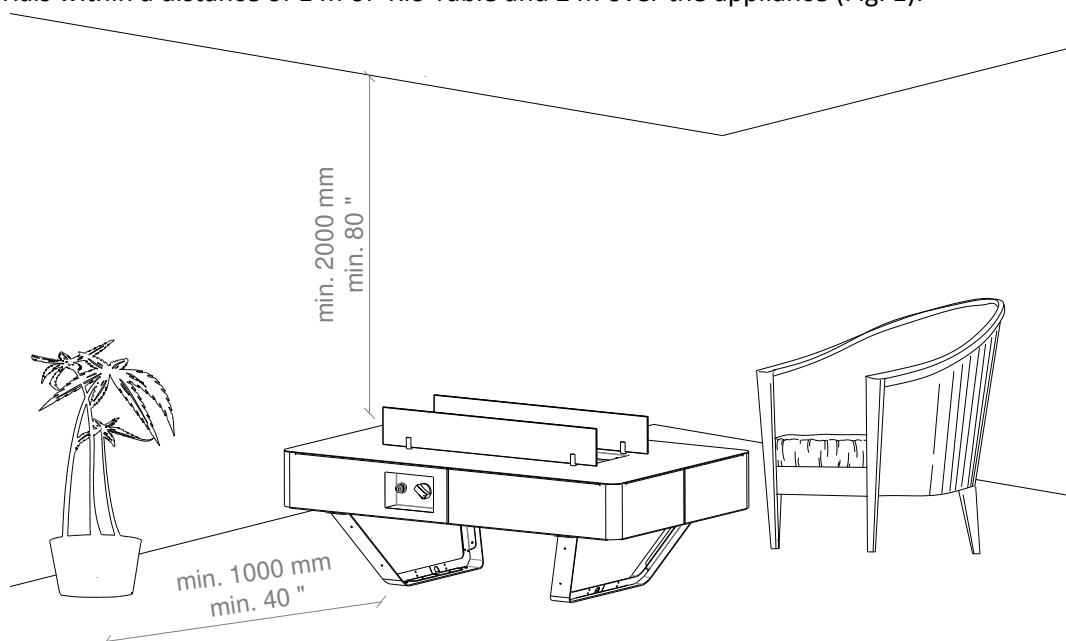

Fig. 1: Minimum distance to flammable materials
- This appliance must be kept away from flammable materials during use. Do not place any combustible materials within a distance of 1 m of Rio Table and 2 m over the appliance (Fig. 1).